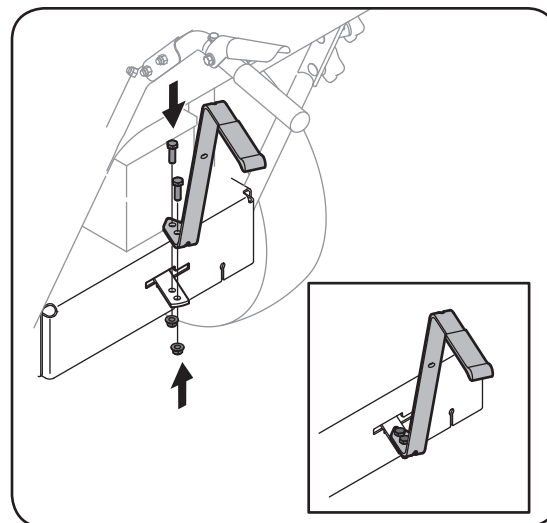

Figure 3-6
3. Position the upper shift lever into a vertical position aligning the holes in the lever with the holes in the shift plate. See Figure 3-6.
4. Secure the lever to the plate using the two screws and two nuts removed earlier. See Figure 3-6, inset.